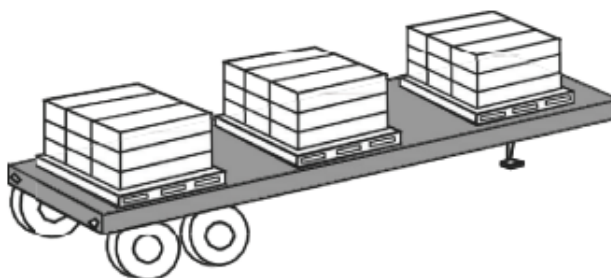

FIGURE 10 – Shipping Options
1. Upright in carton 4 per pallet, see **FIGURE 10 – Shipping Options**.
2. Upright inside cabinet (risers shipped separate or customer supplied) 4 per pallet, see **FIGURE 10 – Shipping Options**